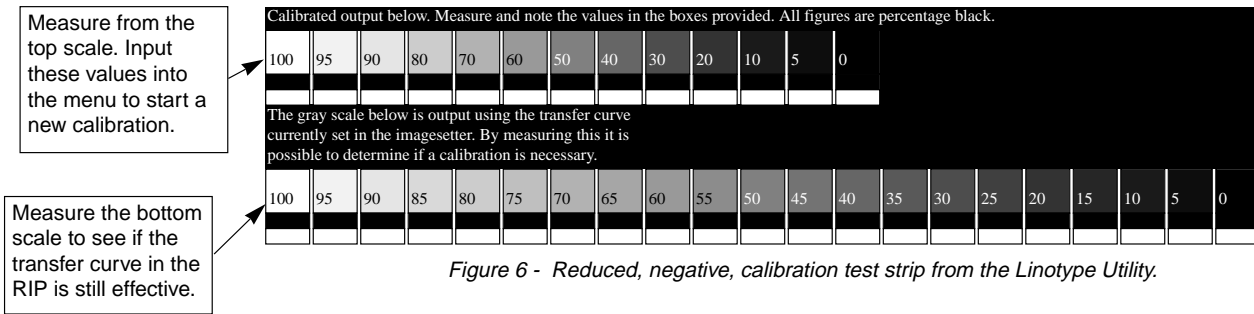

Figure 6 - Reduced, negative, calibration test strip from the Linotype Utility.
- The test strip includes two gray scales (see Figure 6). Before you enter any new values, the top scale is uncalibrated. The bottom scale reflects the curve that is currently set in the RIP. If no curve is resident in the RIP, like values in both the top and bottom curves should match. To calibrate, take